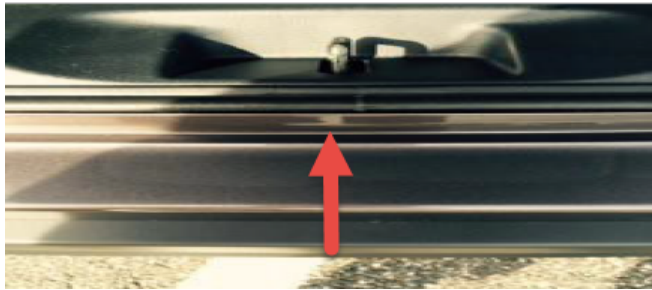

Figure 4.1
1. Start by aligning the center notch of the material with the center mark in the trunk (or the trunk latch) as well as the top edge of the vehicle panel. Figure 4.1
2. Once alignment is established, tack the center portion of the material in place using a squeegee. (A)